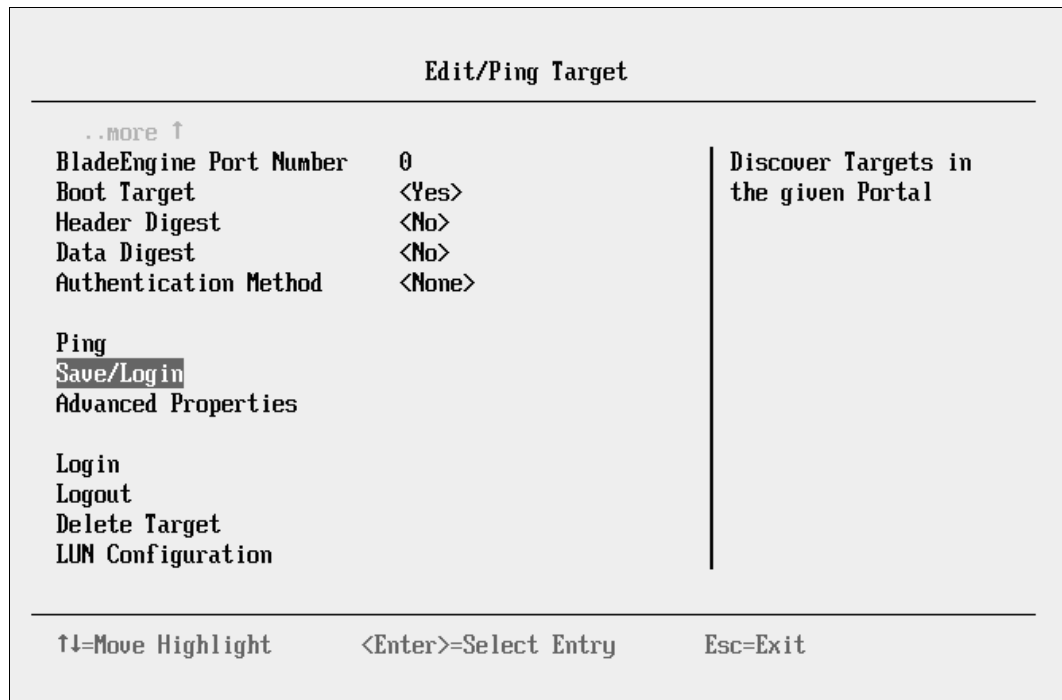

Figure 9-87 Edit/Ping Target panel
14. In the Edit/Ping Target panel (Figure 9-87), follow these steps: